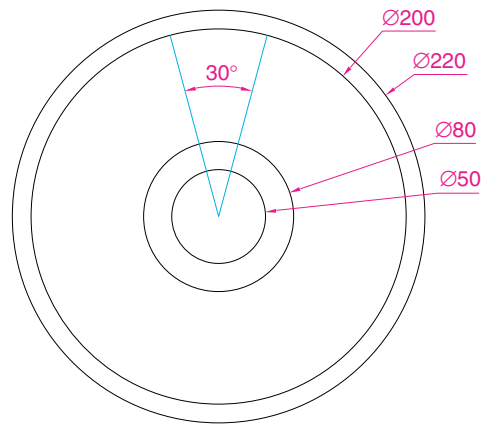
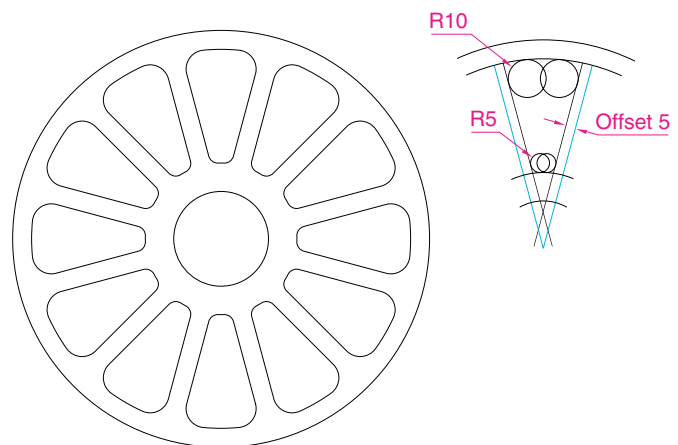

Fig. 5.49 Exercise 4 – circles and lines on which the exercise is based
Fig. 5.50 Exercise 4
4. Construct the circles and lines shown in Fig. 5.49. Using **Offset** and the **Tr** prompt of the **Circle** tool, followed by **Trim**, construct one of the outlines arrayed within the outer circle. Then with **Polyline Edit** change the lines and arcs into a pline of width=0.3. Finally array the outline 12 times around the centre of the circles to produce Fig. 5.50.